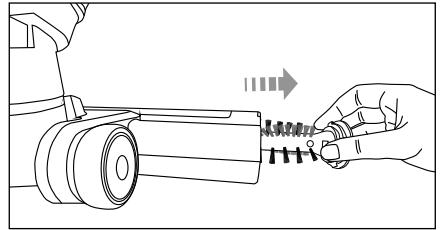

Fig. 8
- 3) Pull the rotary brush **13** out of the floor nozzle **16** (Fig. 8).